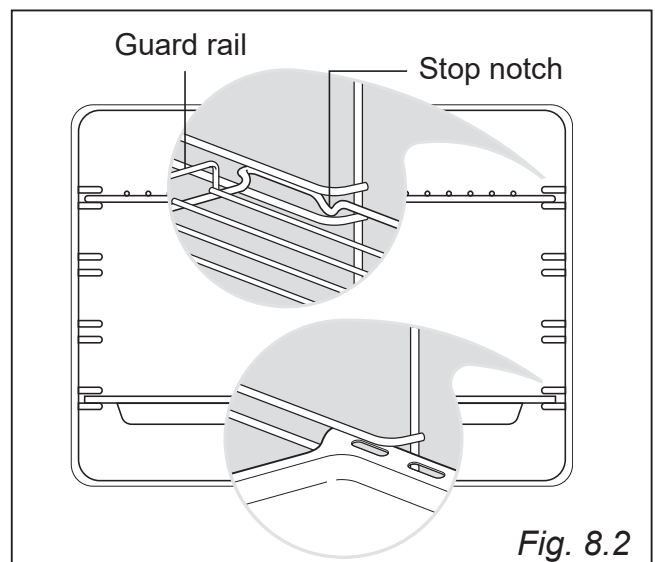

Fig. 8.2
- Slide into the guides, the shelf and the tray (fig. 8.2).
The oven tray must be inserted into the side runners (fig. 8.2).